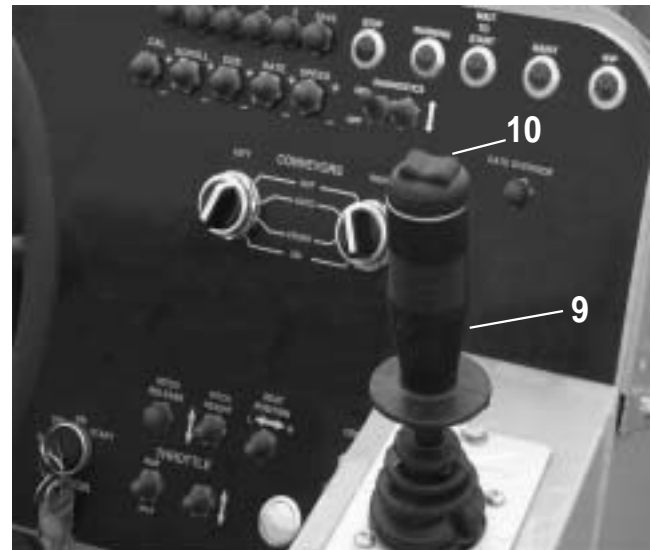

Figure 6. Speed/Direction Control Handle
9. Speed/Direction Control Handle (Figure 6)
10. Gate/Spread Roll Switch. (Figure 6)